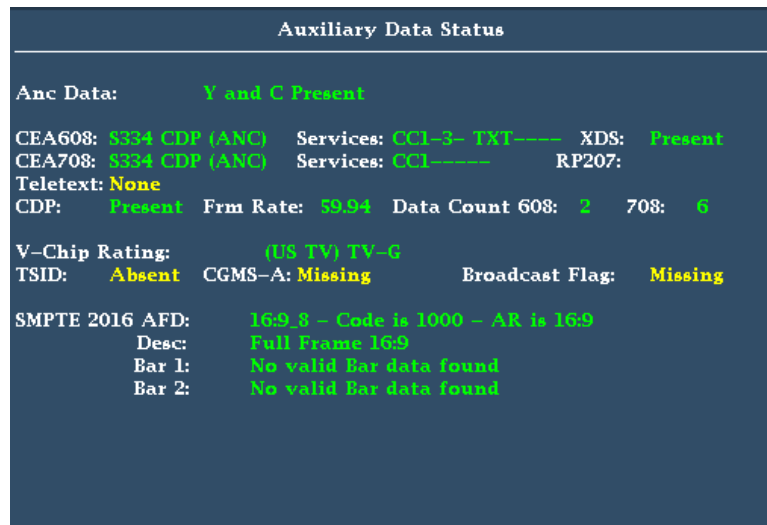

Figure 59: Auxiliary Data Status display
4. Select **Aux Data Status**. The Auxiliary Data Status display shows the status of the closed caption data. (See Figure 59.)
View the graticules in the Picture display. AFD information can viewed in the Auxiliary Data Status display. (See Figure 59 on page 133.)